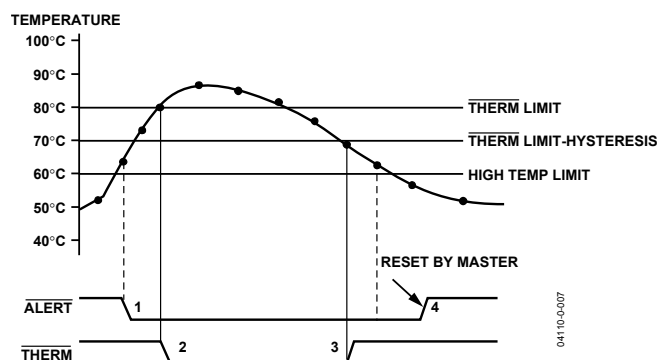

Figure 19. Operation of the $\overline{\text{ALERT}}$ and $\overline{\text{THERM}}$ Interrupts
Figure 19 shows how the $\overline{\text{THERM}}$ and $\overline{\text{ALERT}}$ outputs operate. A user may wish to use the $\overline{\text{ALERT}}$ output as a SMBALERT to signal to the host via the SMBus that the temperature has risen. The user could use the $\overline{\text{THERM}}$ output to turn on a fan to cool the system, if the temperature continues to increase. This method would ensure that there is a fail-safe mechanism to cool the system, without the need for host intervention.
3. The $\overline{\text{THERM}}$ output deasserts (goes high) when the temperature falls to $\overline{\text{THERM}}$ limit minus hysteresis. In Figure 19, the default hysteresis value of 10°C is shown.